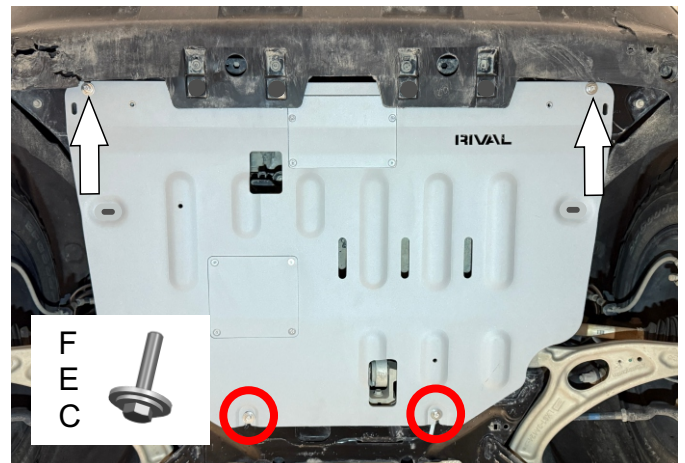

Fig. 4
4. Slide the front part of skid plate (item 1) under factory bumper on pre-installed M6x30 bolts from step 3. Secure the rear part of the skid plate using M6x30 bolts with M6 and M8 washers (items C, E, F) as shown in fig 4.